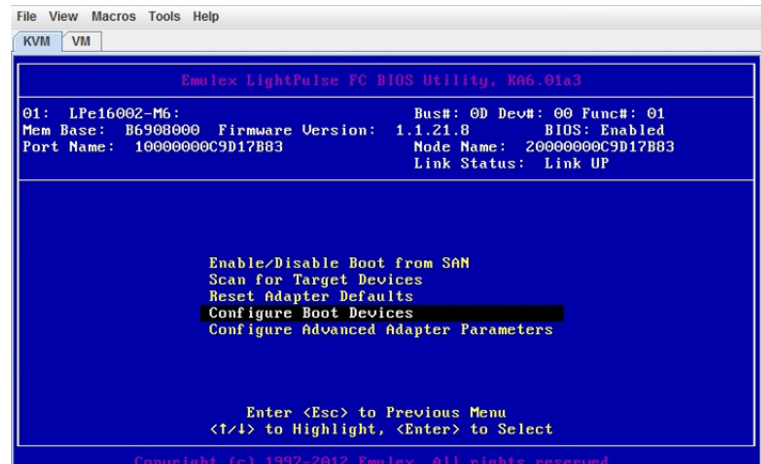

Figure 23 Configuring the boot devices
5. When the boot LUN is visible to the HBA, select **Configure Boot Devices**, as shown in Figure 23.